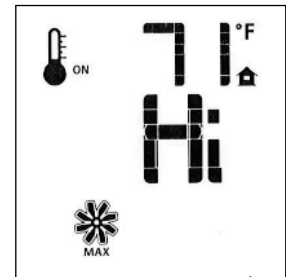

Figure 79. Fan Speed.
- Use the Up/Down Arrow Keys to turn ON, OFF, or adjust the fan speed. Fig. 79. A single “beep” will confirm reception of the command. After a 5 minute interval, the fan will power up to its highest speed and then modulate down to the established fan speed setting. The fan will continue to operate for 12 minutes after the burner is turned off. Manual speed control is not available when the SMART Thermostat is ON.